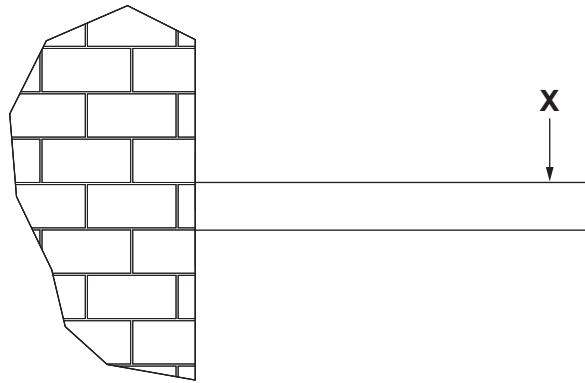

Fig. 2.1
- (b) Fig. 2.1 shows a wooden beam supported at one end in the wall of a building.